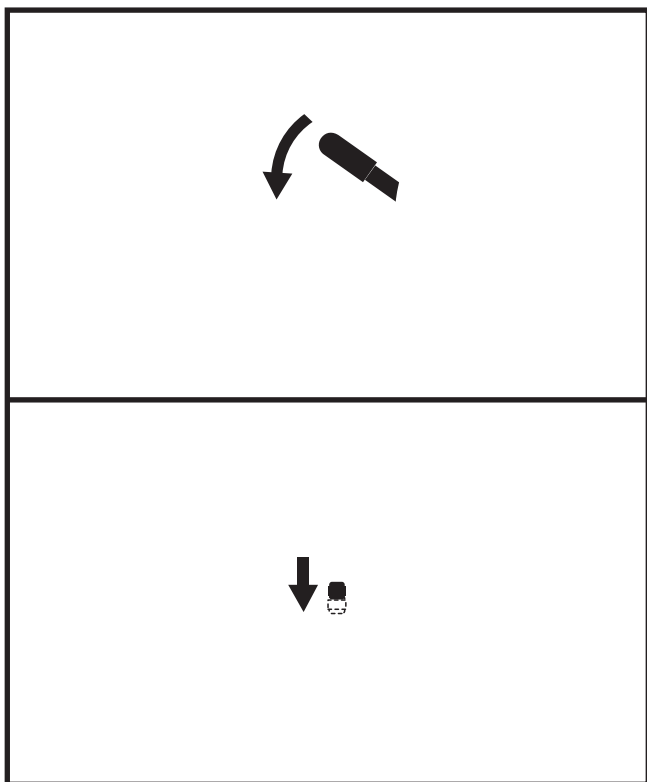

Figure 2. Freewheel Mode (Drive Disengaged)
1. Push down both manual freewheel levers for freewheel mode (drive motor disengaged). See figure 2.